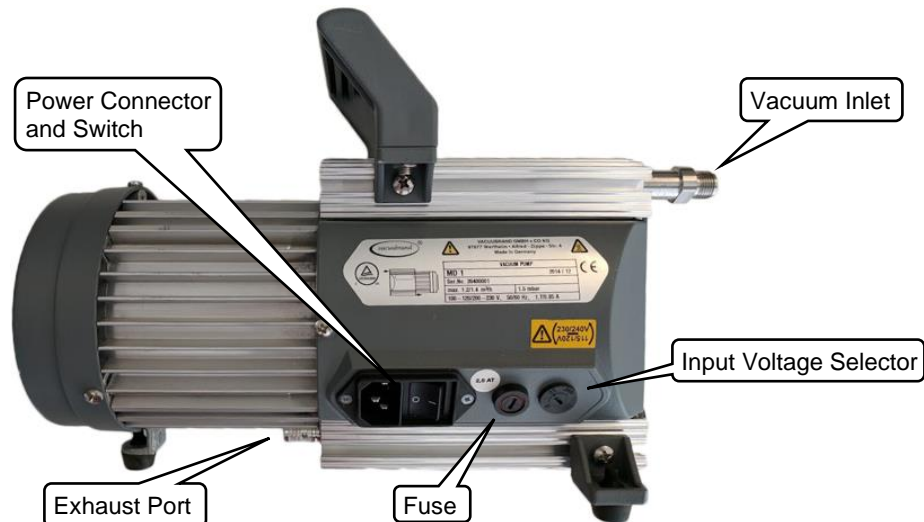

Figure 6: Vacuum Pump Voltage Selection
6. Set the vacuum pump input voltage to the correct level for your area by rotating the voltage selector switch located on the side of the pump next to the fuse holder (Figure 6).